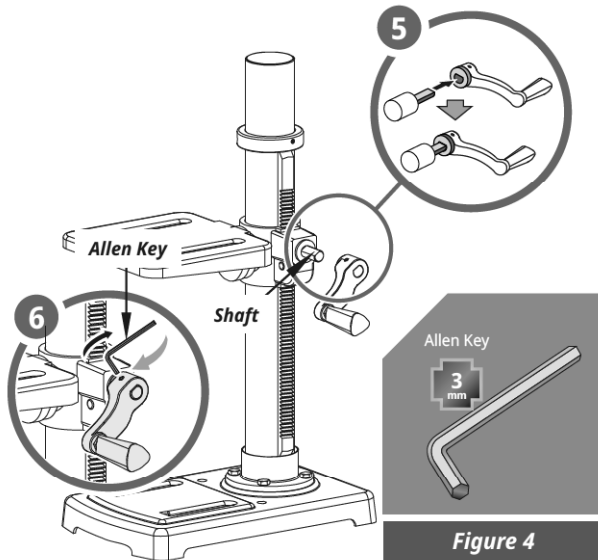

Figure 4
- Slide the height crank over the shaft on the side of drilling bench. (See Figure 4 illustration 5)
- Secure the height crank to the shaft using allen key 3mm. (See Figure 4 illustration 6)